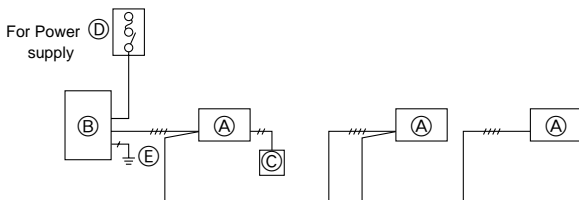

Fig. 7-2
7.2. Indoor unit (Fig. 7-2) (Fig. 7-3)